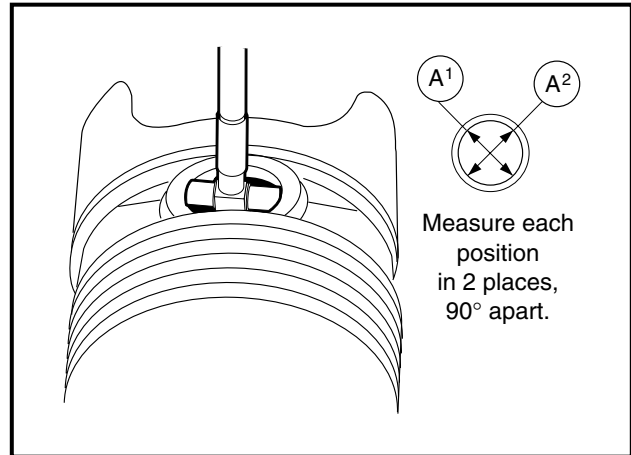

Figure 13-57 Measure Piston Pin Hole I.D.
3. Using an inside micrometer or telescoping gauge, measure the inside diameter of the piston pin hole in the piston at several points (**Figure 13-57, Page 13-29**).